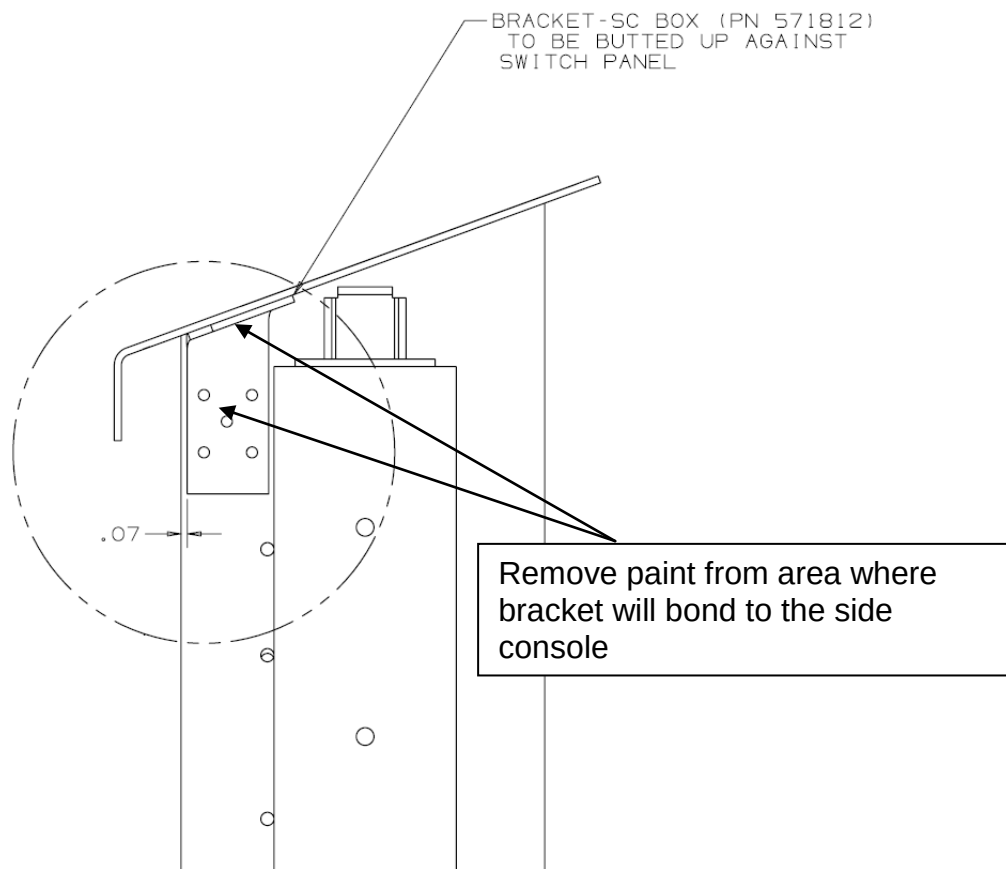

Figure 1: Front Bracket Location
- a. Locate the front bracket (NF PN 571812) and hold it in place in the location shown in Figure 1.
- c. Remove the bracket and with a sanding tool or equivalent tool, remove the paint from the inside of the marked out area on these surfaces. See Figure 1.